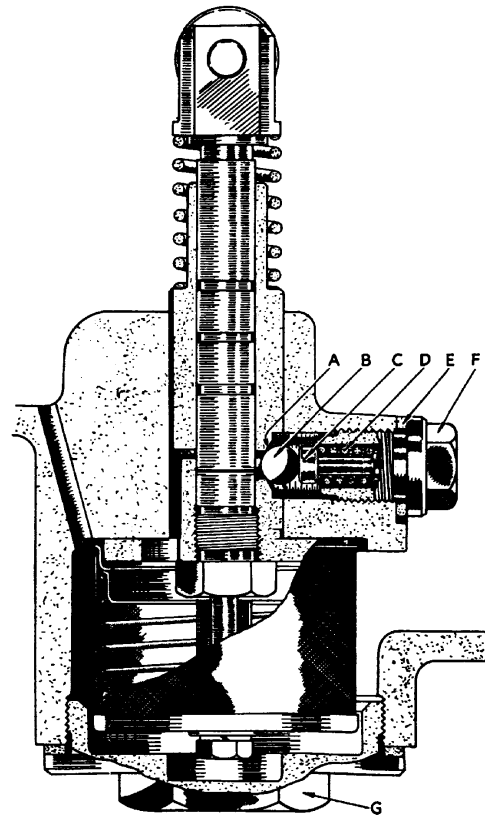

Fig. 6 The Oil Pump
- (a) Remove the drain plug (G) and drain off oil (Fig. 6).
- (g) The pump valve plug (F) can now be unscrewed with a box spanner, and the spring (D), plunger (C) and ball (B) removed (Fig. 6).
- (h) Clean the valve seat (A) and reseal the ball if necessary by gently tapping it on to its seat with a copper drift.
Re-assembly is the reverse of the above operations, but ensure that the valve plug is well tightened on to the soft copper washer (E) (Fig. 6) which should be replaced by a new one if damaged in any way.